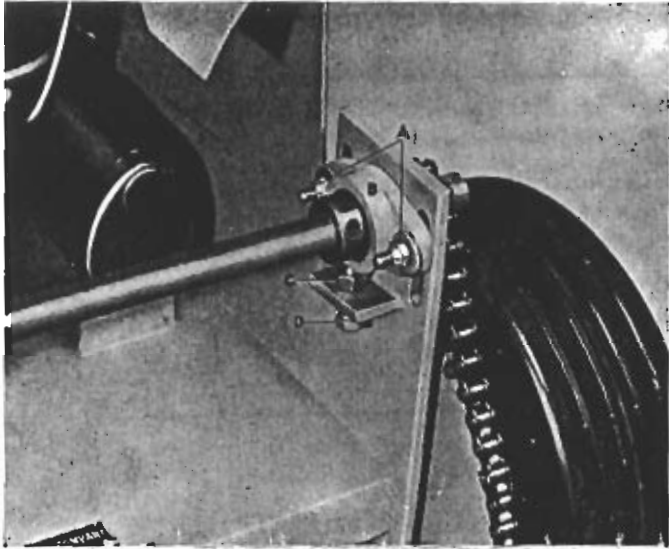

FIGURE 2
**Chain.** See Figure 2. Check chain tension before mower is put in use. This chain has been set at the factory for proper tension. Should chain become too loose, loosen the two shakeproof nuts "A" so that the bearing and bearing retainer "B" can be moved freely in the provided slots. Then loosen jam nut "C" and turn jack screw "D" in a clock-wise direction. This raises the retainer "B" thus tightening the chain. The chain must not be extremely tight, but have a little slack. When chain has been tightened once or twice, it will probably be necessary to remove the chain and remove a link from this chain. After making necessary adjustment, tighten jam nut "C" against bracket and nuts "A".